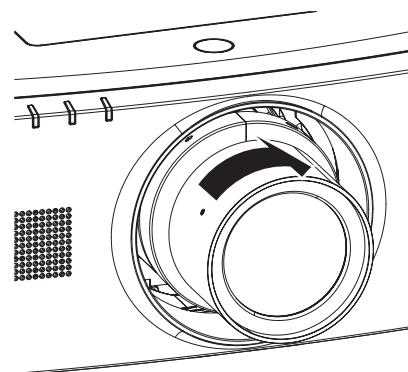

Fig. 2
- 2) Turn clockwise to the end. (Fig. 2)